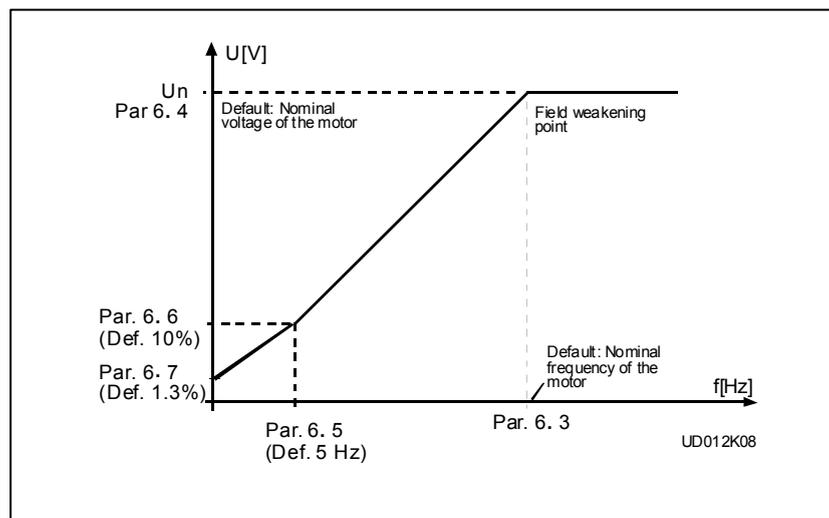

Figure 4. Programmable U/f curve.
- 2** The U/f curve can be programmed with three different points. The parameters for programming are in group 6. Programmable U/f curve can be used if the other settings do not satisfy the needs of the application. See Figure 4. Programmable U/f curve can be used if the other settings do not satisfy the needs of the application.